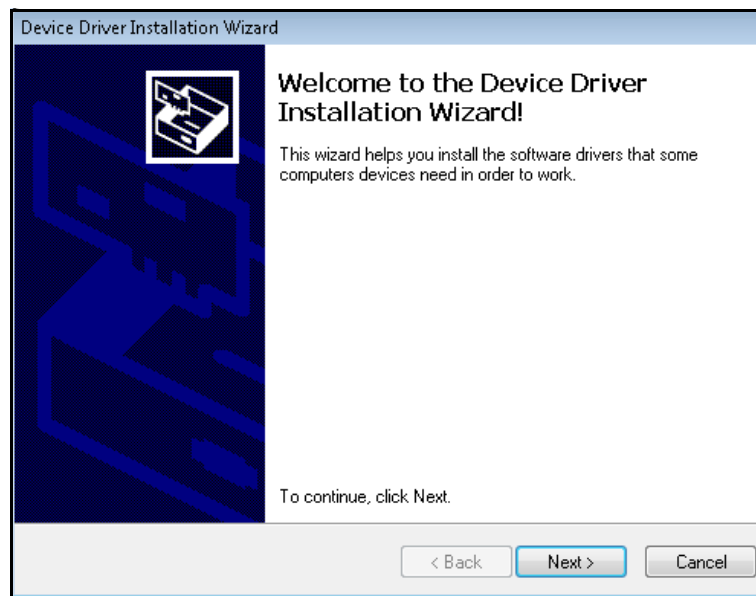

Figure 8: Device Driver Installation Screen
6. After extracting FTDI CDM drivers, the dialog box shown in Figure 8 below opens. Click [next] to install software drivers that some computer devices need in order to work.